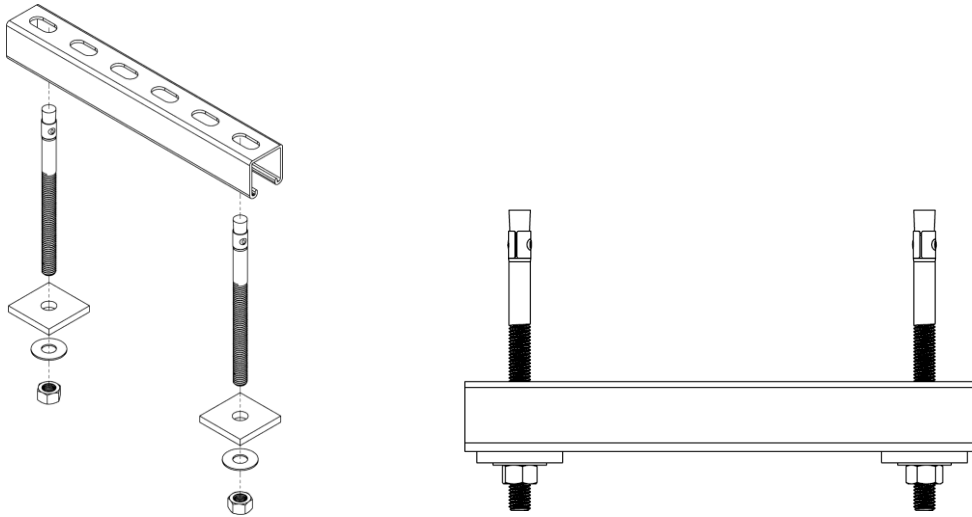

Figure 252: **Strut Secured to the Concrete**
8. Secure the strut to the concrete using the seismic wedge anchors, square strut washers, flat washers, and hex nuts (Figure 252).